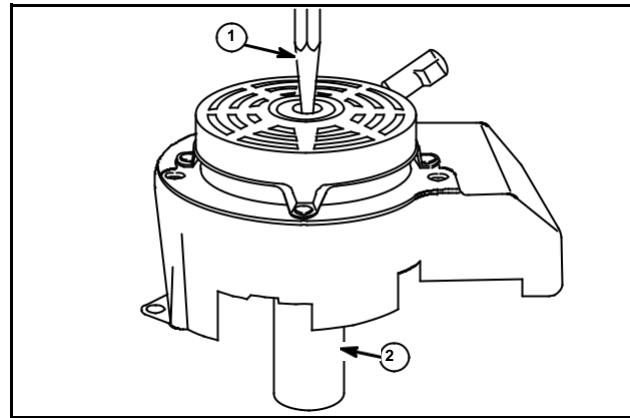

Fig. 42
5. Support blower housing on Tool #19227, Cylinder Support (2), and drive out center pin with 5/16" (7.9 mm) dia. pin punch (1), Fig. 42.